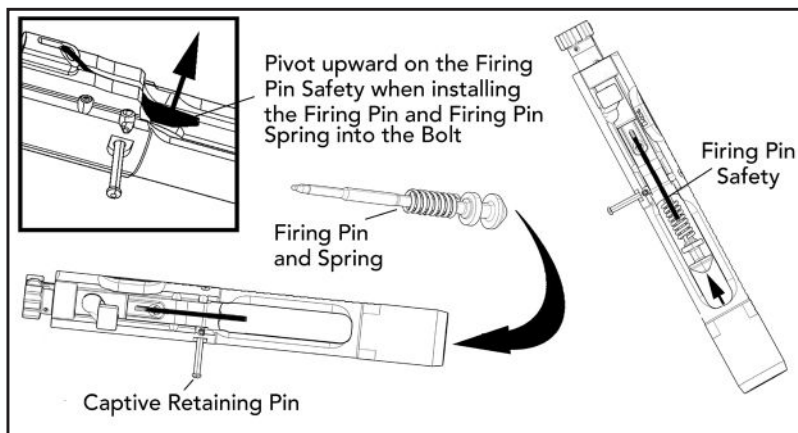

Fig. 59 – Installing the Firing Pin
- e. Ensure that the captive firing pin retaining pin is drifted completely out to the left hand side of the bolt carrier. Insert the firing pin spring onto the firing pin, pivot upwards on the spring loaded firing pin safety, and insert the firing pin and spring into the bolt carrier's firing pin tunnel until the firing pin reaches its limit of forward travel (Fig. 59)